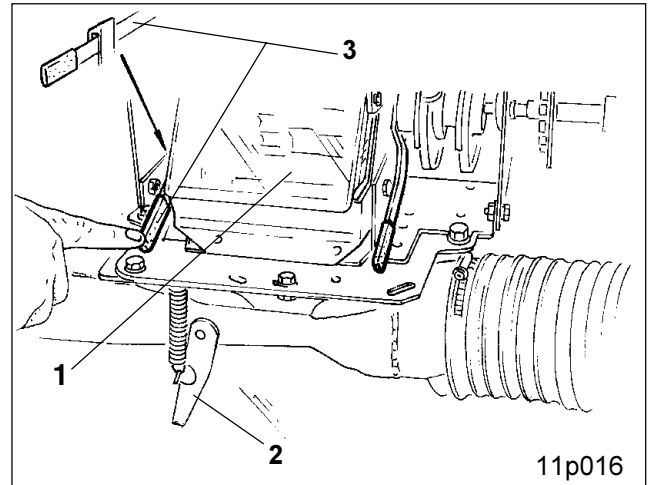

Fig. 18.1
- the transparent plastic flap (Fig. 18.1/1)
- the injector sluice flap (Fig. 18.1/2) and
For opening the emptying flap behind the metering unit, press lever (Fig. 18.1/3) downwards and arrest.